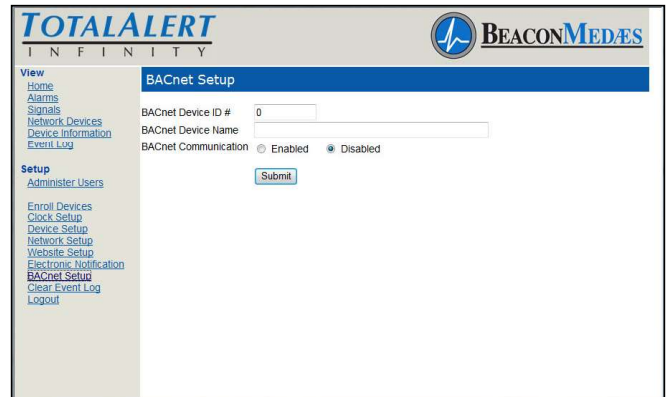

Figure 201: BACnet Setup Page
1. Click BACnet Setup to access BACnet Setup page (Figure 201).